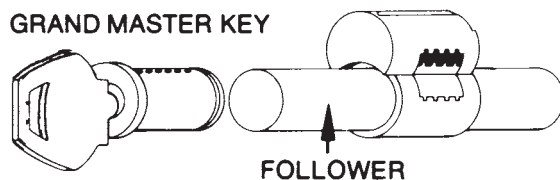

Figure 9.19 Using the appropriate follower, remove the plug, then dump the pins. (*Emhart Corp.*)
5. Withdraw the plug and remove all pins from their chambers. Figure 9.19 illustrates this procedure.